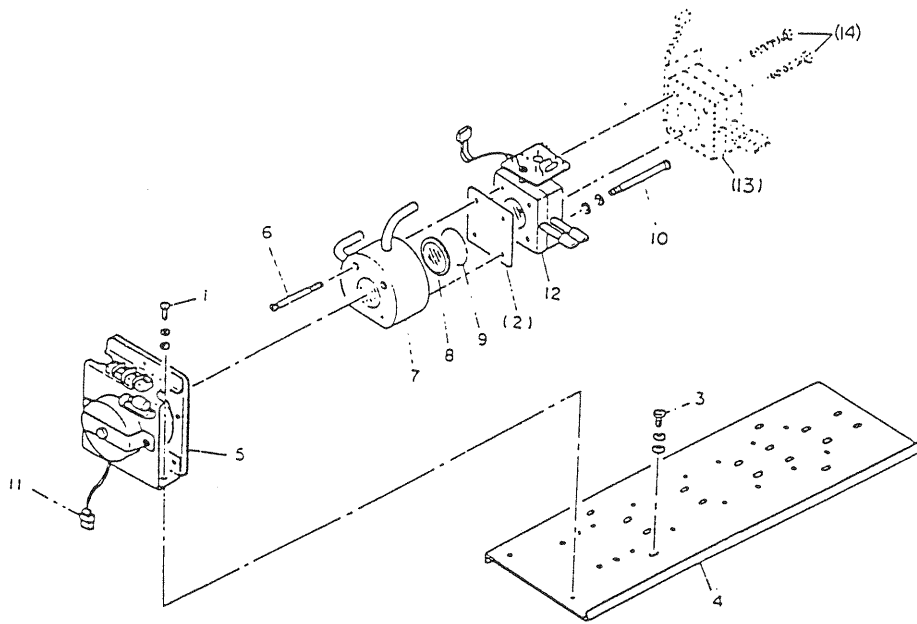

Fig. 6.2 Exploded view of measuring unit
- (2) How to disassemble block cell(refer to Fig.6.2 next page)
- a. Proceed the same procedures described in a.~d. of (1)how to disassemble pipe cell.
In case of the dual components analyzer, remove connector of output cord of the 2nd component detector(No.13 in Fig.6.2) from the 2nd component printed cct. board, then remove the 2nd component detector by loosening 2 screws(No.14 in Fig.6.2).
- f. Loosen 2 screws(No.10 in Fig.6.2), with which the detector and the infrared source unit are mounted together, then remove the detector from the measuring unit.
- g. Remove the cell from the detector by loosening 2 fixing screws (No.6 in Fig.6.2).
A window(No.8 in Fig.6.2) on one side of block cell is not fixed but only inserted between detector and block cell, therefore hold the detector upside while disassembling not so as to drop the window down.
Carry out replacement by referring to Fig.6.1 or Fig.6.2..